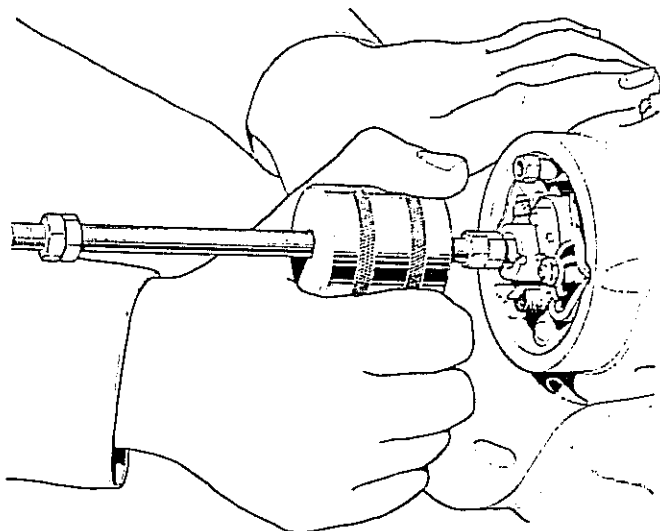

Fig. C20 Removing contact breaker cam using slide hammer 064298.
- 4 Using service tool '064298 as shown in *Fig. C20*, screw the shaft into the contact breaker cam then slide the weight back sharply several times until the cam is lifted off the camshaft taper. It is unnecessary to remove the contact breaker plate from the timing cover at this stage unless so desired.